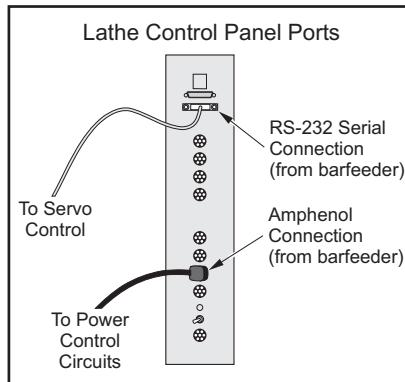

Figure 2.3 Amphenol & serial connections
3. Connect the serial and amphenol connectors from the Barfeeder to the auxiliary ports of the lathe control (Refer to Figure 2.3). Power up the lathe.